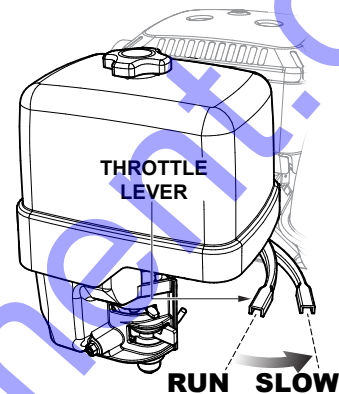

Figure 21. Throttle Lever (Slow/Idle Position)
1. Move the throttle lever to the **"SLOW"** (IDLE) position (Figure 21) and run the engine for three minutes at low speed.